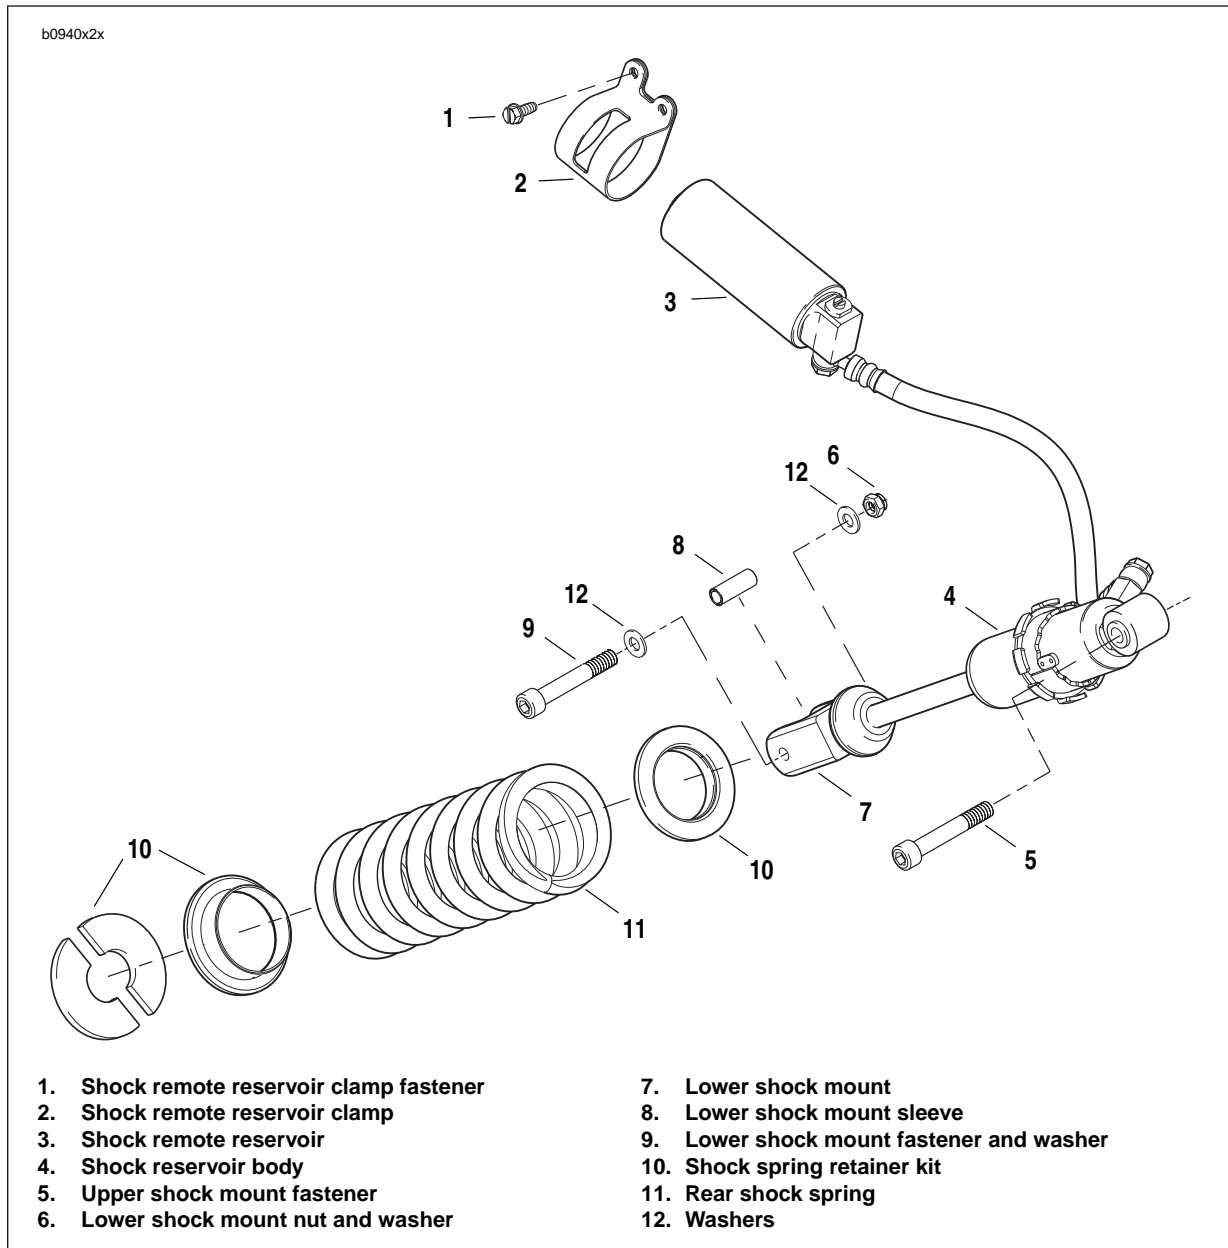
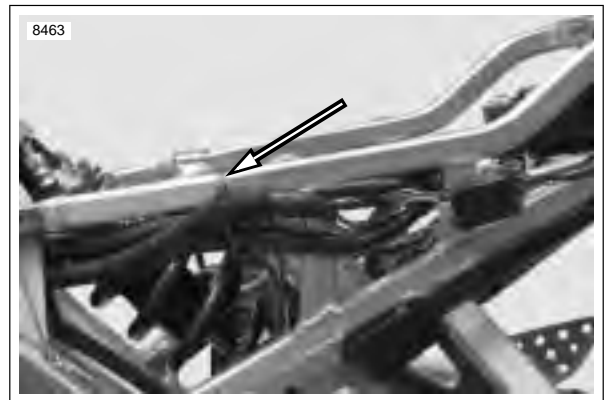

Figure 2-88. Rear Shock Absorber Assembly
Figure 2-89. Cable Strap, Left Side Subframe Tail Assembly
2. Install pivot shaft (9) with a special 7/8 in. hex tool located in tool kit, ANTI-SEIZE and tighten to 24-26 ft-lbs (32-35 Nm).
3. Apply LOCTITE 271 (red) and tighten pivot shaft pinch fastener (7) to 17-19 ft-lbs (23-26 Nm).
4. See Figure 2-88. Install lower shock absorber mounting fastener (7) and spacer from shock absorber and swingarm and tighten to 15-17 ft-lbs (20.3-23 Nm).
5. See Figure 2-88. Remove upper shock (5) and lower shock mount fasteners (6 and 9) and lower shock mount sleeve (8).
6. Remove rear shock reservoir clamp (2).
7. See Figure 2-89. Cut cable strap.
1. See Figure 2-88. Install upper shock mount and tighten fastener (5) to 48-52 ft-lbs (65-70.5 Nm).
2. Install lower shock mount with fasteners, washers (6, 9, 12) and lower shock mount sleeve (8) and tighten to 15-17 ft-lbs (20.3-23 Nm).
4. See Figure 2-89. Install cable strap.
See Figure 2-88. Verify compression adjuster screw is facing up.